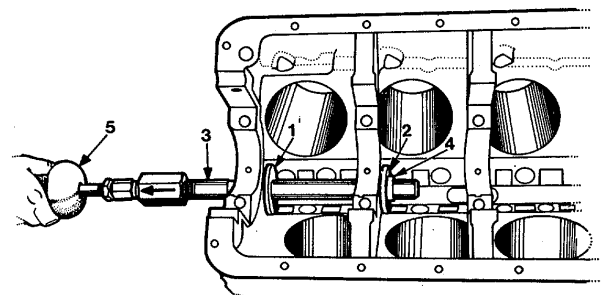

Fig. 85 Removing Second Camshaft Bearing
1. Position front adapter, SE-1897-3 in front bearing (Figure 85).
2. Position second adapter, SE-1897-1 in second bearing (Figure 85).
4. Using front adapter as a pilot, pull second bearing with slide hammer (Figure 85).